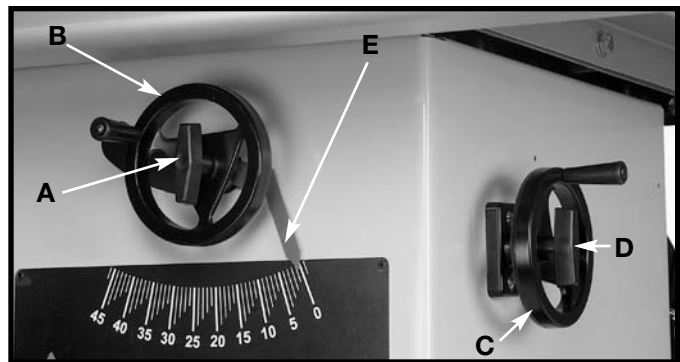

Fig. 46
To raise the saw blade, loosen lock knob (A) Fig. 46, and turn the blade raising handwheel (B) clockwise. When the blade is at the desired height, **tighten lock knob (A)**.
To lower the blade, loosen lock knob (A) Fig. 46, and turn the handwheel (B) counterclockwise. **NOTE:** One full turn of the handwheel will change blade height approximately 1/4".
To tilt the saw blade for bevel cutting, loosen lock knob (D) Fig. 46, and turn the tilting handwheel (C). When the desired blade angle as shown on scale and pointer (E), **tighten lock knob (D)**.